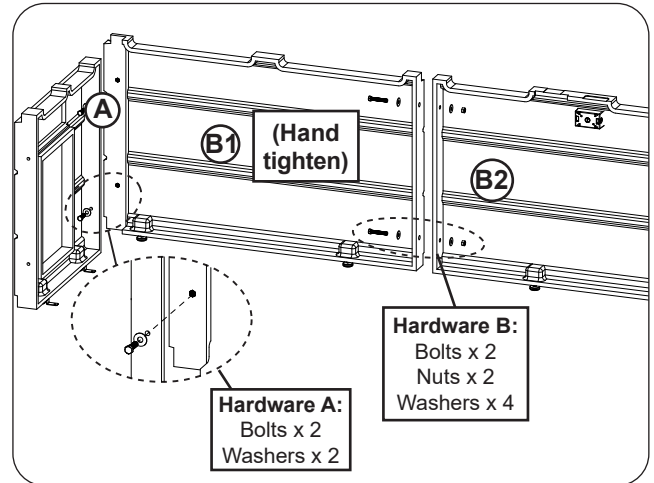

Fig. 8-2 Assemble left side and rear wall
1. Position the left side wall (A) and rear wall piece (B1) as shown. Carefully align the pilot holes, and insert the hardware (hardware kit A) in the order shown. Hand tighten only. See Fig. 8-2.
2. Position the rear wall piece (B2) as shown. Repeat the hardware installation process (hardware kit B). Hand tighten only. See Fig. 8-2.